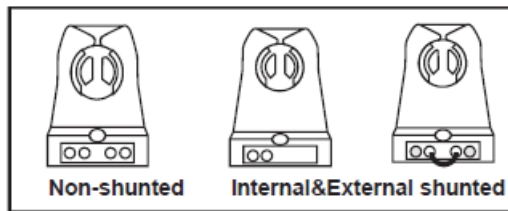

Fig:1 -Lampholder Type
7. Identify what type of lamp holders are in fixture (Fig.1), Double ended wiring can be used with shunted or non-shunted lamp holder.